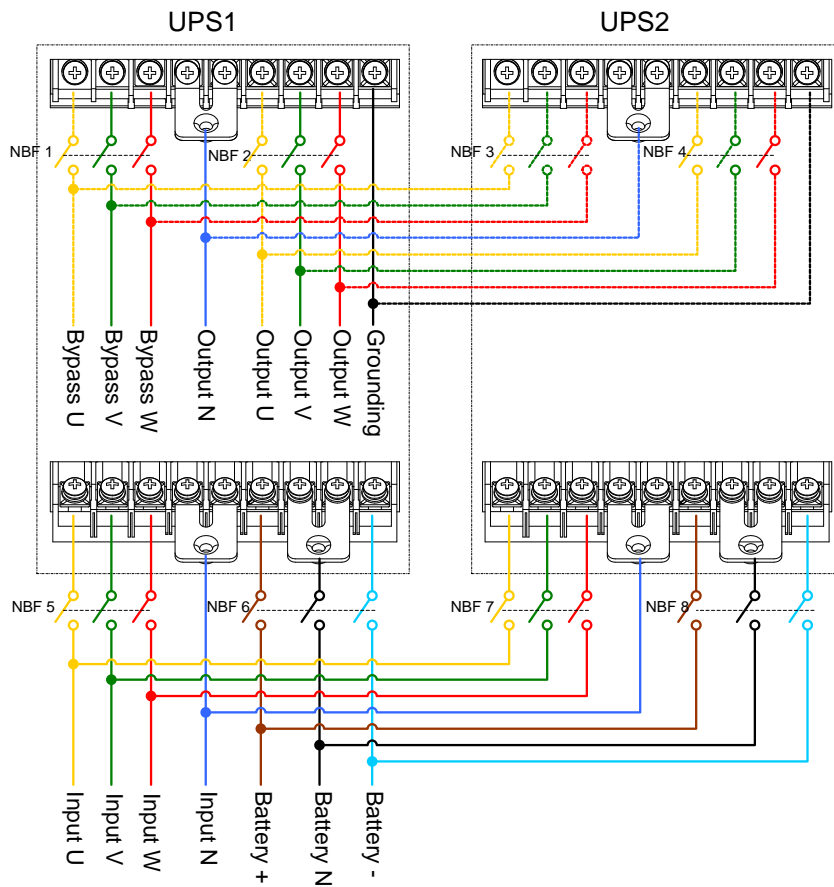
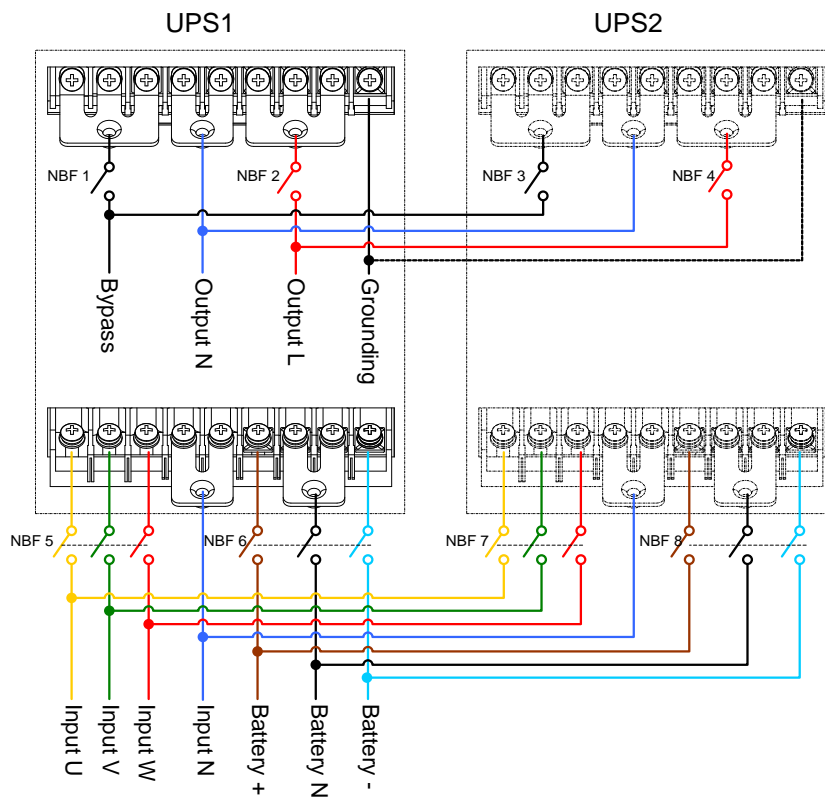

Figure3-19 Wiring diagram of 33 mode parallel system
Figure3-20 Wiring diagram of 31 mode parallel system
- Step 2 Connect the wires of input, output, battery and grounding in parallel system on the basis of Figure3-19, Figure3-20.